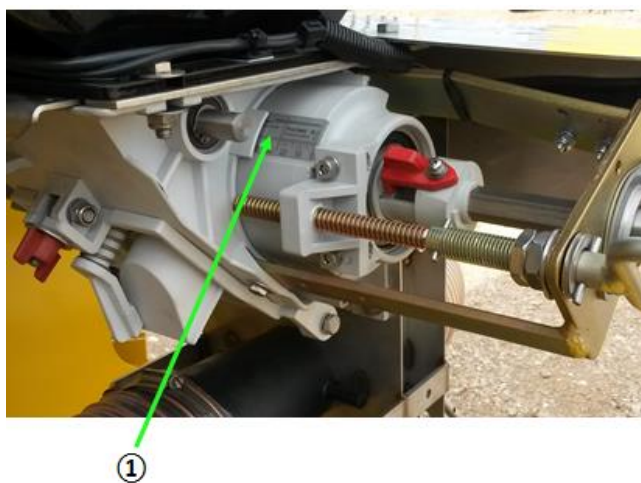

Figure 32 – Slider position
5) Wind out handle to about 15 on slider (20 max) see Figure 32. For more comprehensive details on slider positions consult Appendix D at the rear of the manual.	Wind out handle to about 80 on slider. The handle may be wound out to 100 to achieve higher speeds (see Figure 32). For more comprehensive details on slider positions consult Appendix D.